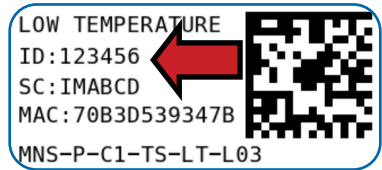

Figure 1
2. Find the device ID. See Figure 1.